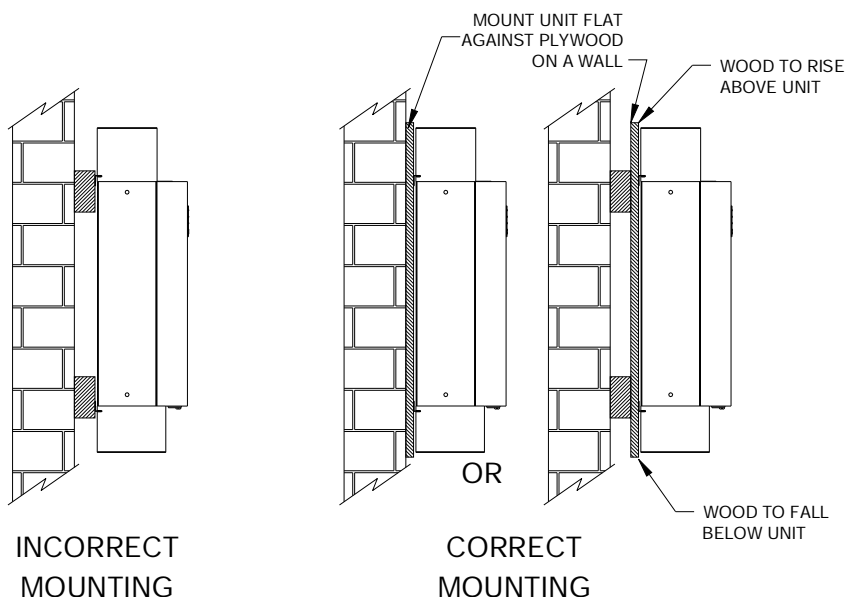

Figure 1D
Step 3: Two wall brackets, with two 1/4" slotted holes each are provided on the unit. **The unit should be secured vertically to a solid wall large enough to cover the complete backside of the unit – See Figure 1D.** Install the top two fasteners (not provided) into the wall, and slide the unit onto them using the slotted holes in the upper brackets. Then install the bottom two fasteners. **Do not** install the unit horizontally. Leave clearance over the unit for lamp removal.